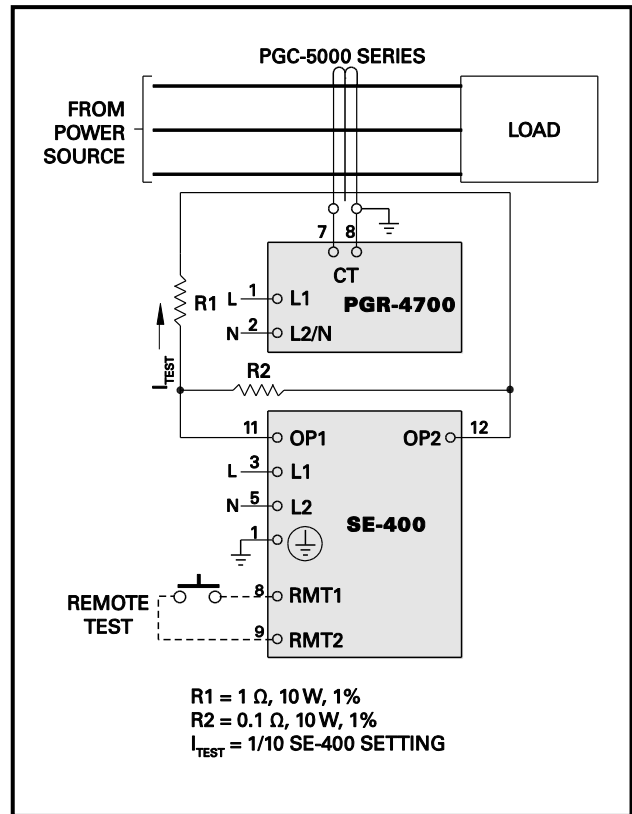

FIGURE 7. Ground-Fault-Test Circuit.
- Verify proper reaction of the circuit-interrupting device in response to a simulated or controlled ground-fault current. To simulate ground-fault current, use CT-primary current injection. Fig. 7 shows a test circuit using the SE-400 Ground-Fault-Relay Test Unit. The SE-400 has a programmable output of 0.5 to 9.9 A for a duration of 0.1 to 9.9 seconds. Fig. 7 shows the use of resistors that reduce the injected current to 10% of the SE-400 setting. Set the test current to 120% of the PGR-4700 setting. Inject the test current through the CT window for at least 2.5 seconds. Verify that the circuit under test has reacted properly. Correct any problems and re-test until the proper reaction is verified.
Fig. 7 updated.